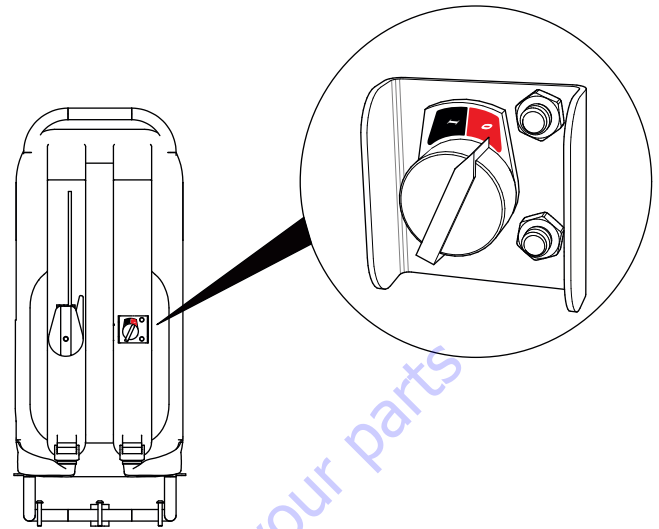

Figure 21. ON/OFF Switch (OFF)
3. Place the ON/OFF switch located on the **left** strap to the **OFF** position (Figure 21).
To quickly shut down the engine while the vibrator is in use, place the engine ON/OFF switch located on the **left** strap to the **OFF** position (Figure 21).